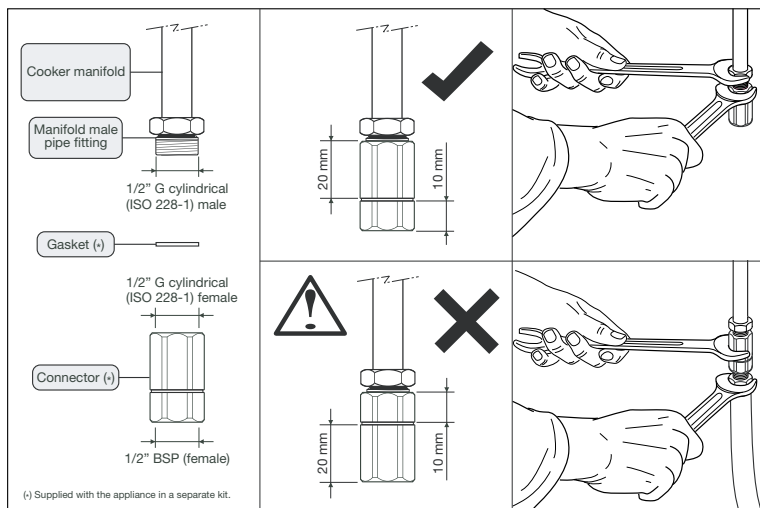

Fig. 6b
- 1 Fit the 1/2" BSP (female) connector (supplied with the cooker in a separate kit) to the gas inlet at the rear of the cooker interposing the gasket. Check the correct positioning of the connector as shown and always use two suitable spanners (Fig 6b).
- 3 To avoid damage to the appliance gas rail inlet pipe tighten the fittings using two suitable spanners (Fig. 6b).